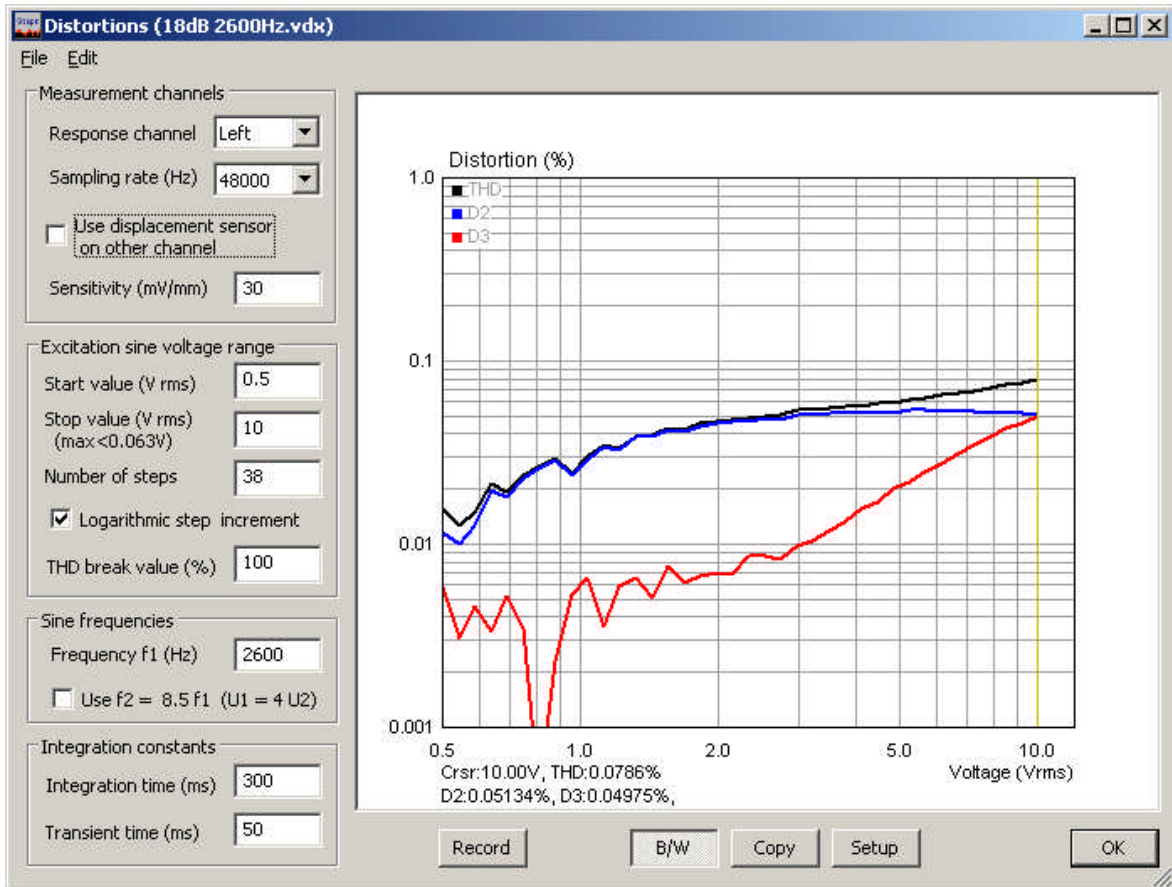

Figure 3.4.2 Loudspeaker Displacement/Distortion window.
Figure 3.4.2 shows the 'Loudspeaker Displacement/Distortion' window. Although full functionality is described in ARTA Application Note AP7 (1), a safety feature not included in 'Distortion vs Amplitude' is discussed here. This is the 'THD break value', whereby a voltage cut-off can be set to protect the system under test.